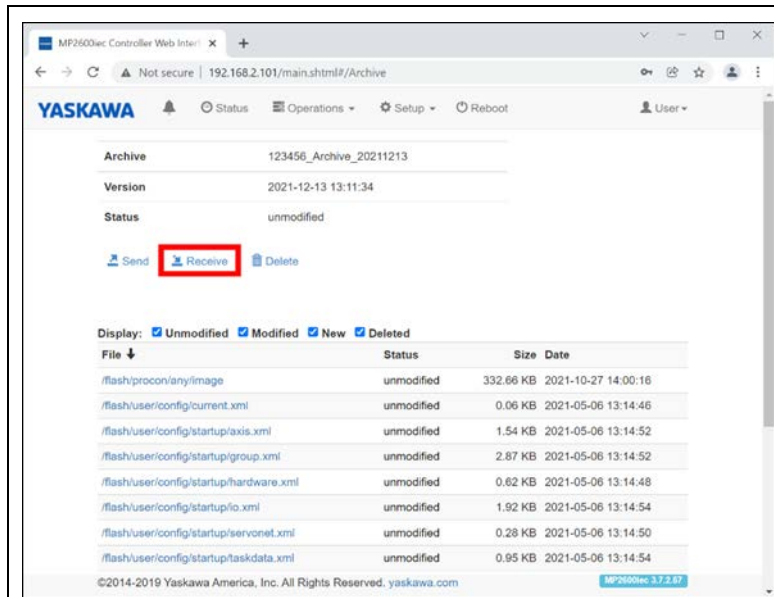

Figure 5-12
- Step 8. To create a new archive file, return to the web browser. (Refer to Figure 5-12)